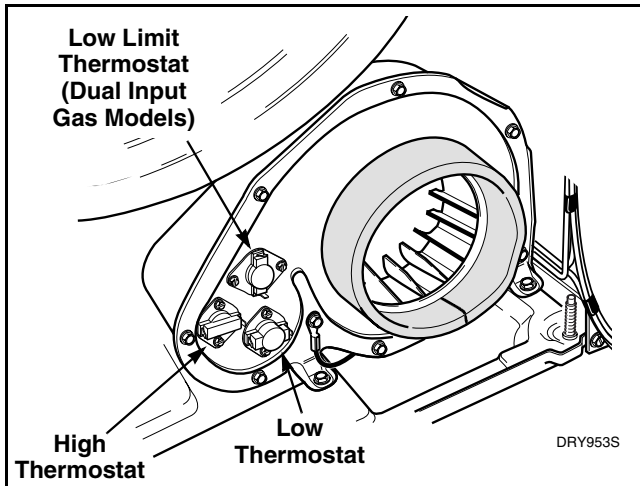

Figure 20
- b. Refer to *Figure 20* for thermostat removal.